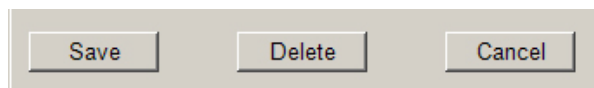

Figure 2-1: Save, Delete and Cancel Buttons
- The configuration tool is a true HMI, and has no database of its own. Changes made and saved using the Save button at the bottom left (Figure 2-1) of each configuration screen are saved **only** to the connected Master Terminal. To propagate changes to other terminals in a cluster, a Synchronize process (refer to **File** on page 2-4) must be run **while the system is off-line**.